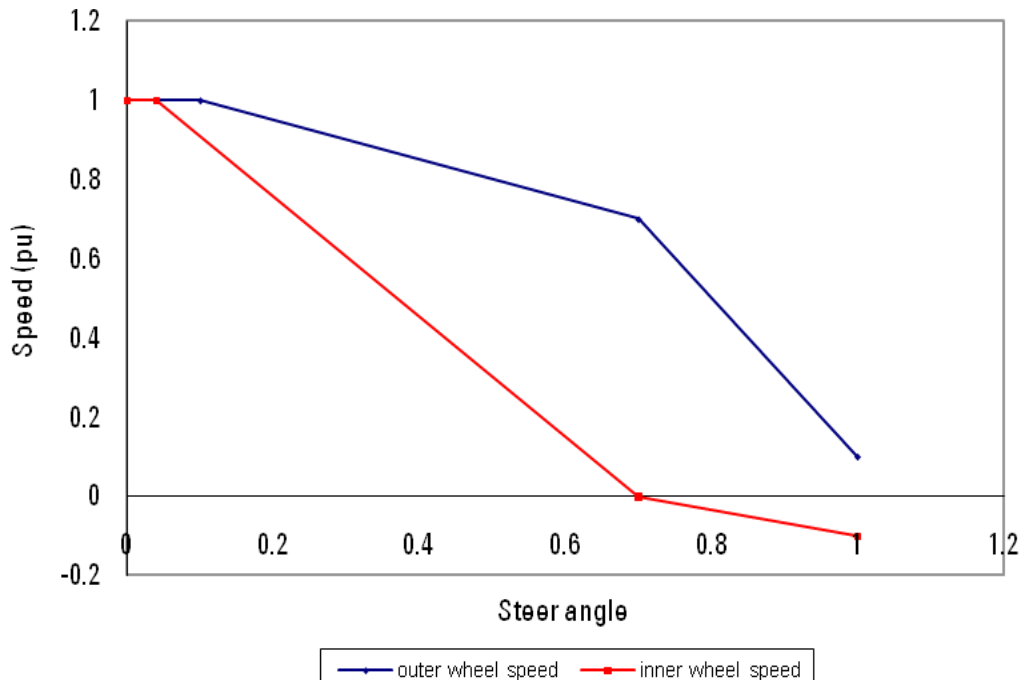

Figure 23 Graph of speed vs. steering angle
- Setup the steering map. This map defines the relationship between the inner and outer wheel speeds and the steering angle. Each map has 4 user definable points as shown in Figure 23.